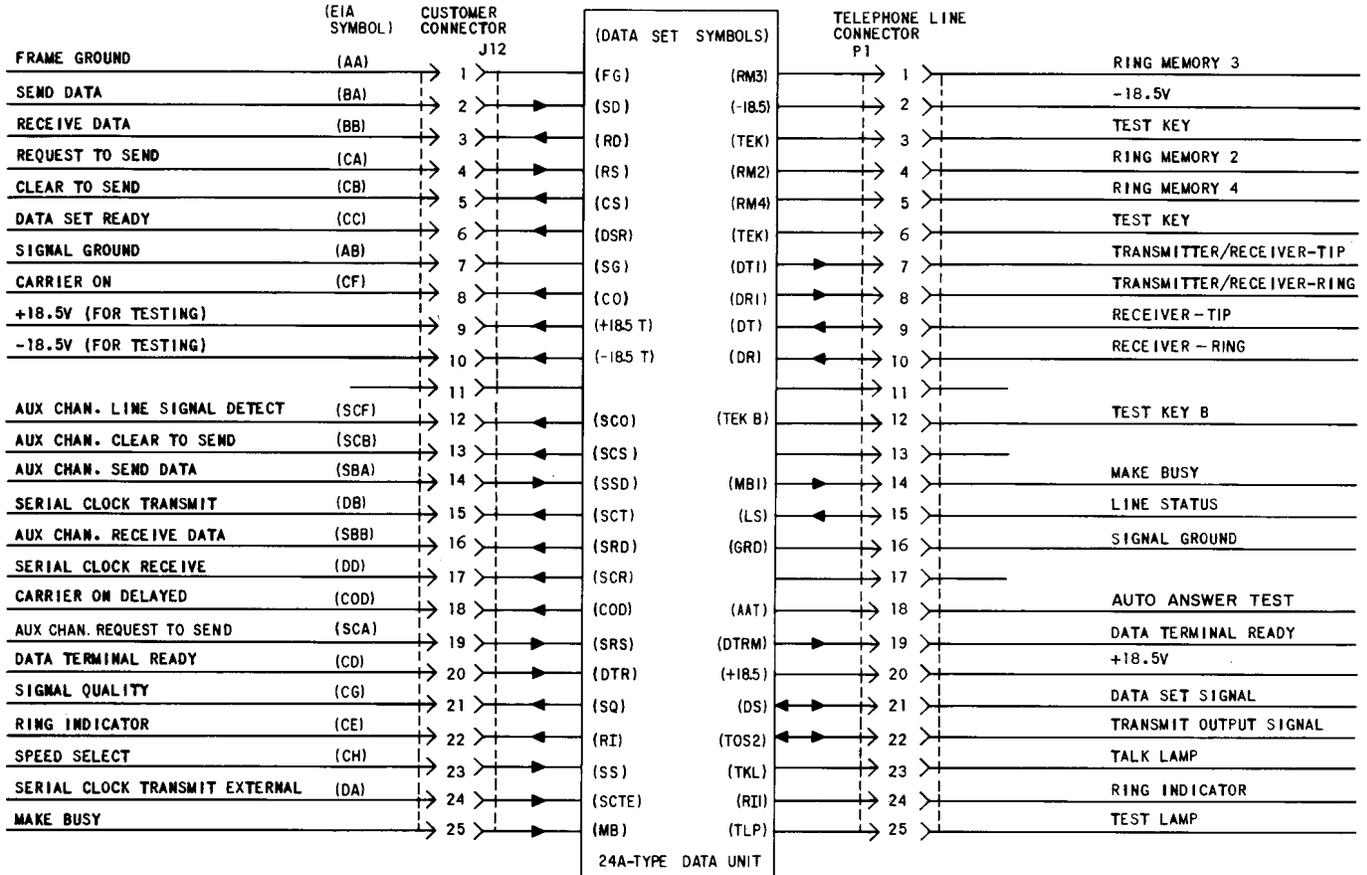

Fig. 11—Customer and Telephone Line Interface Signals
**2.37** The pin designations used for the CUSTOMER (J12) and TELEPHONE (P1) connectors are shown in Fig. 11. Connection to the telephone line from P1 is accomplished through a DAS 804M or a 66E3 connecting block and associated leads.